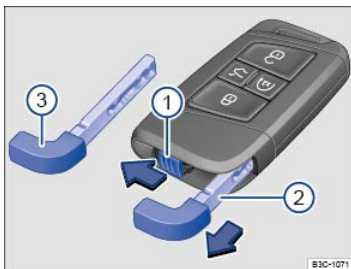

Fig. 59 Releasing the emergency key and removing it from the remote control vehicle key.
Key to ⇒ Fig. 59 :
- ① Emergency key release.
- ② Removing the emergency key.
- ③ Emergency key bit.
There is an emergency key ⇒ Fig. 59③ inside the remote control vehicle key fob.
To remove the emergency key: Move the sliding lock ⇒ Fig. 59① in the direction of the arrow. At the same time, push the emergency key out of the slot in the remote control vehicle key in the direction of the arrow ②.